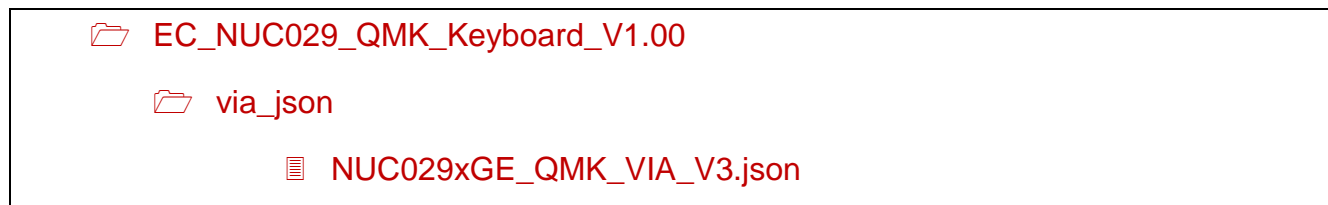

Figure 5-37 NUC029xGE JSON File for VIA Tool File Path
4. Click **Load** button of **Load Draft Definition** function and select the NUC029xGE JSON file for VIA tool. The file path is shown in Figure 5-37.